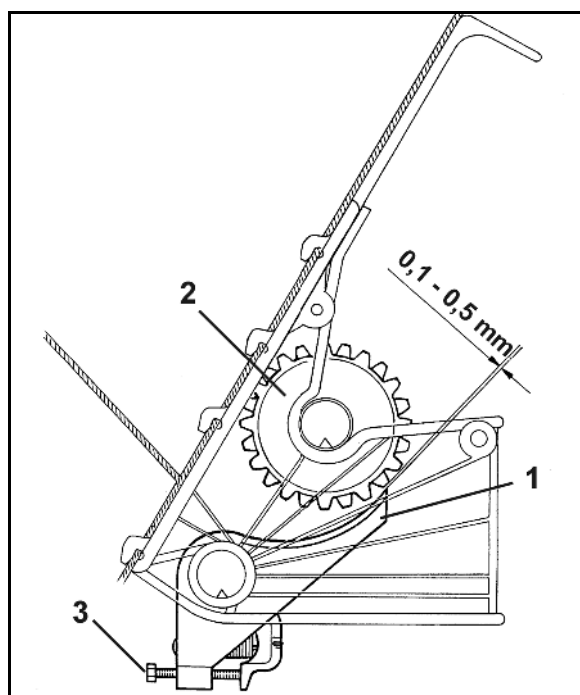

Fig. 43
2. Bring bottom flap setting lever (Fig. 43/2) at the setting plate into position "1" of the quadrant plate and secure.
3. Check bottom flaps (Fig. 43/1) for easy operation.
4. Check whether the prescribed spacing of 0.1 mm to 0.5 mm (see Fig. 43) between the bottom flap (Fig. 43/1) and metering wheel (Fig. 43/2) of each metering wheel housing is maintained. For this, the metering wheel to be checked should be turned by hand on the seed shaft.
5. In case of deviations set the prescribed spacing at the spring tensioning screw (Fig. 43/3).